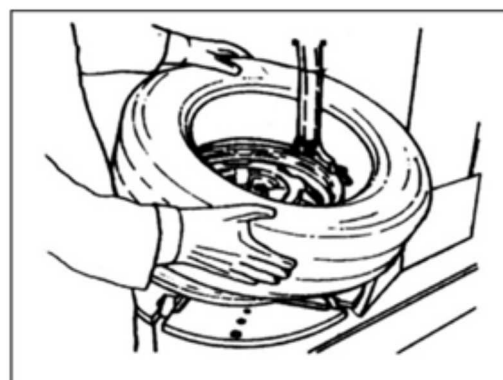

Fig. 21
- Take out the tube if there is. Turn over the wheel to let the other side toward the mount/demount head, and repeat the above steps to demount the other side of the bead. (Fig. 21)